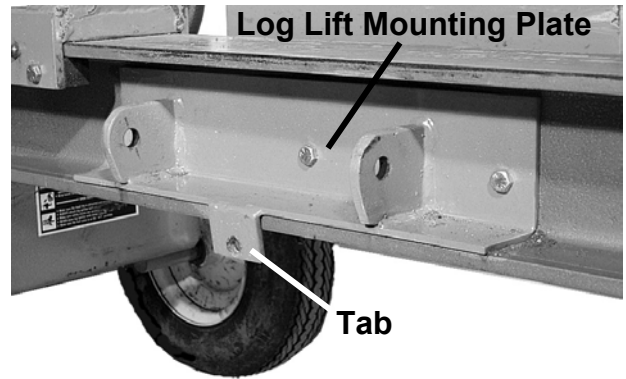

Figure 7
2. Replace the Log Cradle retaining panel with the Log Lift mounting plate, then re-insert and tighten the three bolts and nuts. See *Figure 7* on page 13.
- Hook the Lift Support Bracket over the lower edge of the H-beam frame on the Operator's side and insert the bracket's threaded rod through the tab that extends down from the mounting plate (Figures 7 & 8). Secure with a nut using a 9/16" socket.